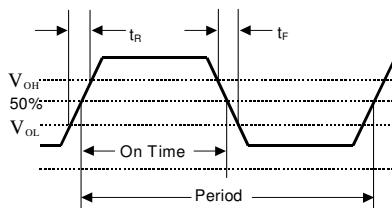
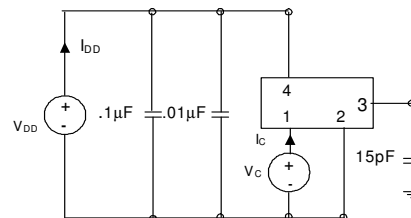

Figure 3: Output Waveform
Figure 4: Typical Output Test Conditions (25±5°C)
2. Parameter is defined in Figure 3 and tested as shown in Figure 4. For $f_o > 90\text{MHz}$, rise and fall time is measured 20 to 80%.
3. Symmetry is defined as On Time/Period (Figure 3).